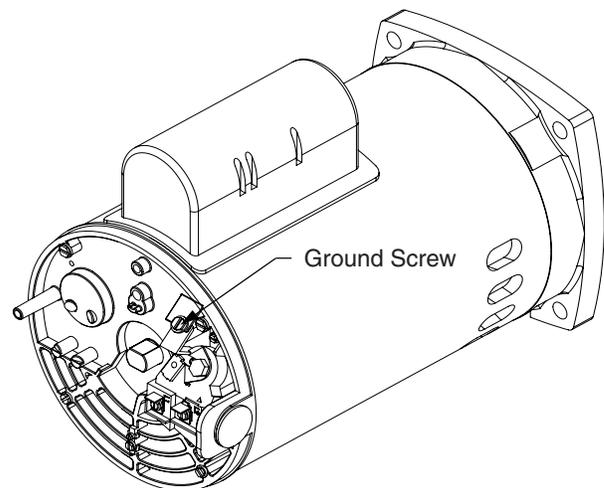

Figure 1. Field Wiring Compartment
6. Permanently ground the motor using the green ground terminal located on the inside of the motor canopy or access plate, **see Figure 1**. Use the correct wire size and type specified by the current National Electrical Code. Be sure the ground wire is connected to an electrical service ground.